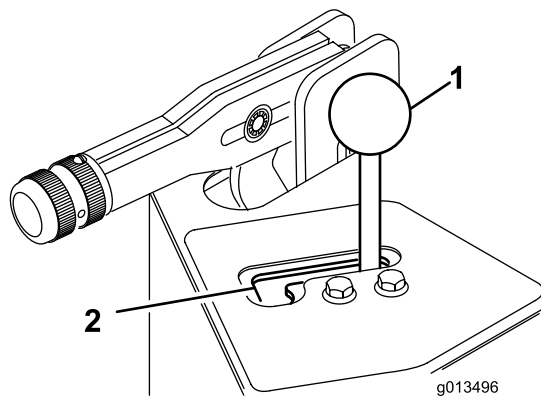

Figure 27
3. Loosen the capscrews and locknuts securing the lever guide (Figure 27) to the valve shroud.